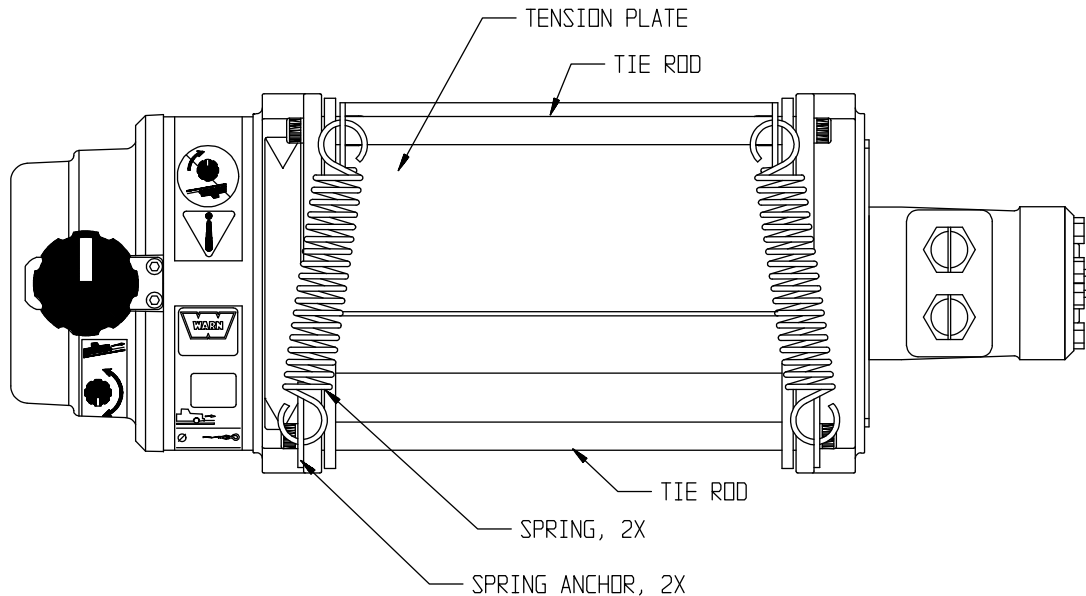

FIGURE 1
1. Remove the two bolts holding one tie rod and slip the tie rod through the tensioner plate as shown in **FIGURE 1**.